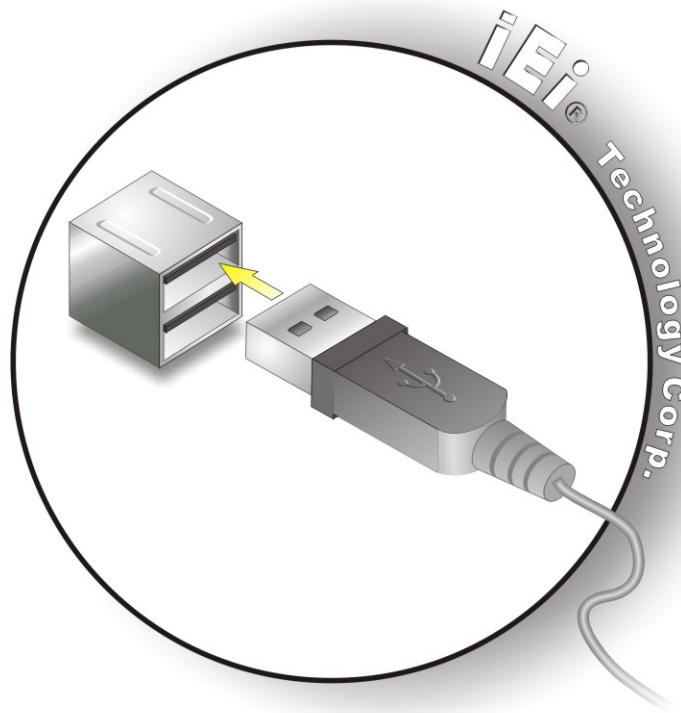

Figure 5-19: USB Connector
Step 2: Insert a USB Series "A" plug. Insert the USB Series "A" plug of a device into the USB Series "A" receptacle on the external peripheral interface. See Figure 5-19.